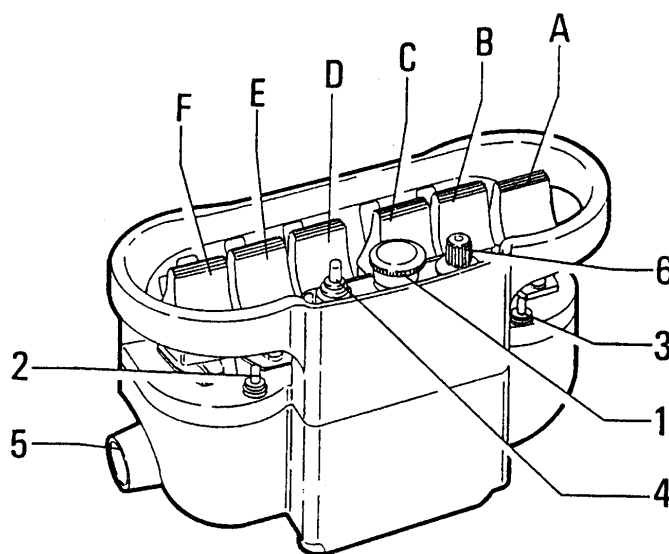

Fig. 6-1
6.1 COMANDO A DISTANZA PER POSTO DI MANOVRA IN ALTO (Fig.6-1)
6.1 REMOTE CONTROL OF THE RAISED CONTROL POSITION (Fig.6-1)